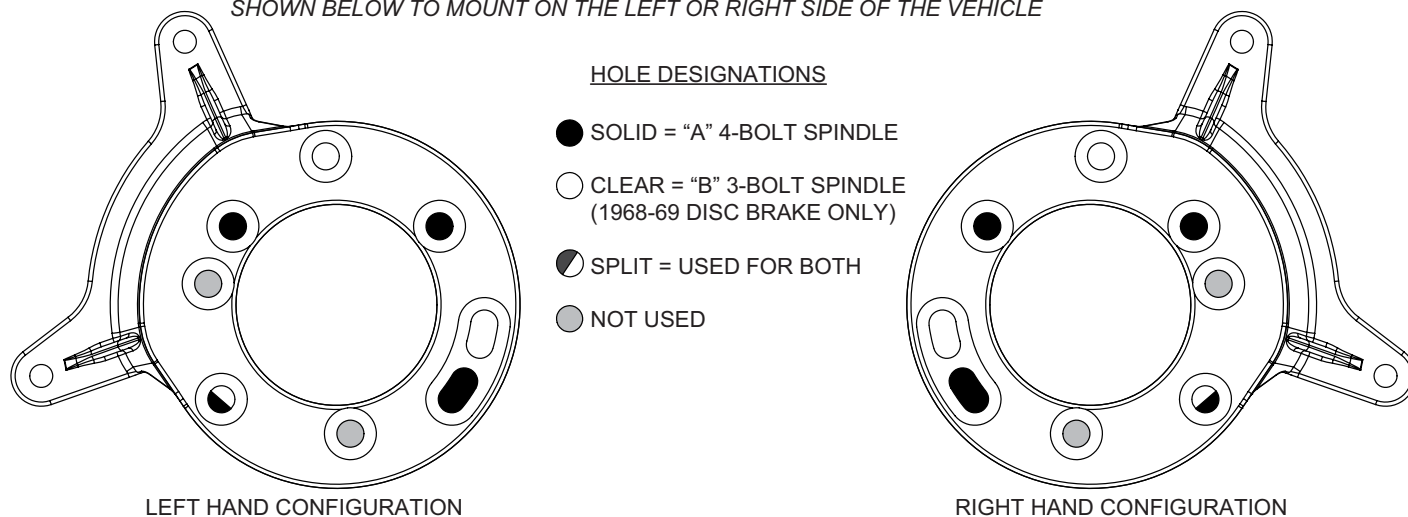
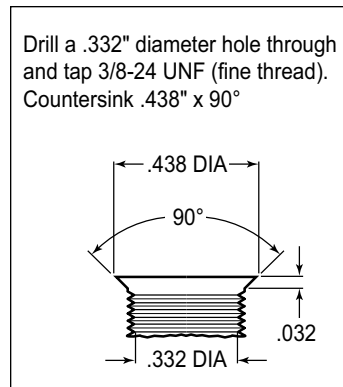
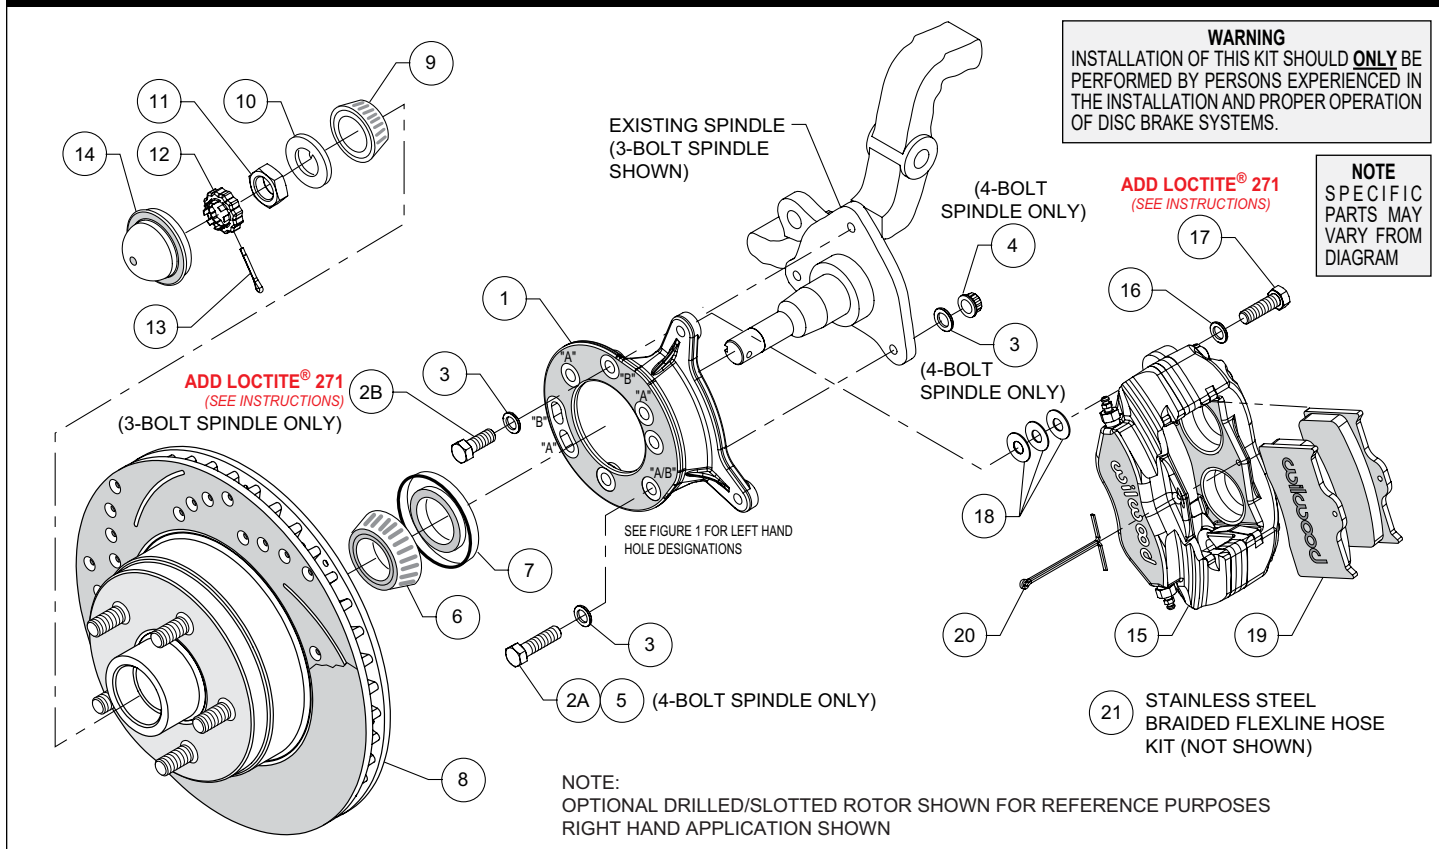

Figure 1. Wilwood Caliper Mounting Bracket
Figure 2. Drill and Tap Detail
Figure 4. Typical Installation Configuration
This kit has been designed for use with both three and four bolt spindle configurations. The only difference is in how the Wilwood caliper mounting bracket is installed. The same bracket is used for both configurations; only the 1968-69 disc brake spindle utilizes three mounting holes while all other spindles use the four mounting holes (see Figure 1). For your convenience we have supplied bolt kits for both applications (see parts list and Figure 4 as necessary). Use the bolt kit that is applicable to your vehicle and disregard the other one.
NOTE: This modification should be performed by a qualified machinist and completed before assembly of the Wilwood disc brake kit begins. Using the caliper mounting bracket as a template (refer to Figure 1 as necessary), locate and verify the three original holes on the spindle that need to be modified. Drill a .332" diameter hole through all three holes, then tap 3/8-24 UNF (fine thread). Countersink the holes to .438" diameter x 90°, as shown in Figure 2.
NOTE: Numbers in parenthesis refer to the parts list and Figure 4 on the preceding pages.
•**NOTE:** This kit uses the same mounting bracket (1) for both the three and four bolt brake spindles. The 4-bolt version, Photo 1, uses four mounting bolts (designated "A"), while the 3-bolt version, Photo 2, uses three (designated "B"). Refer to Figures 1 and 4 for the basic installation position of the bracket and the "A" and "B" reference designations (not physically marked on the brackets).
For 4-Bolt Spindle: Align bracket, using the four "A" holes, to the face of the spindle and attach using bolts (2A and 5), washers (3), and lock nuts (4), as shown in Figure 4 and Photo 1. Torque lock nuts to 30 ft-lb.
For 3-Bolt Spindle (1968-69 Disc Brake): Align bracket, using the three "B" holes, to the face of the spindle and attach using bolts (2B) and washers (3), as shown in Figure 4 and Photo 2. Finger tighten. Remove bolts one at a time, apply red *Loctite*® 271 to threads, and torque to 40 ft-lb.
•Pack the large inner bearing cone (6) with high temperature disc brake bearing grease (available from your local auto parts store) and install into the backside of the hub (8), Photo 3.
•Install the grease seal (7) by pressing into the backside of the hub (8), flush with the end of the hub.
•Pack the small outer bearing cone (9) with high temperature disc brake bearing grease and install into the front side of the hub (8). Slide the hub/rotor onto the spindle. Secure using spindle washer (10) and spindle nut (11). Adjust bearings per OEM specifications. Install spindle nut retainer (12) and a new cotter pin (13), Photo 4.
•Press the dust cap (14) into hub (8), Photo 5..
•Mount the caliper (15) onto the caliper mounting bracket (1) using bolts (17) and washers (16), as shown in Figure 4. Initially place three .035" thick shims (18) on each bolt between the caliper and the bracket, Photo 6. Temporarily tighten the mounting bolts and view the rotor (8) through the top opening of the caliper. The rotor should be centered in the caliper, Photo 7. If not, adjust by adding or subtracting shims between the bracket and the caliper. Always use the same amount of shims on each of the two mounting bolts. Once the caliper alignment is correct, remove the bolts one at a time, apply red *Loctite*® 271 to bolt threads, and torque to 40 ft-lb.
•Install the disc brake pads (19) into the caliper, with the friction material facing the rotor (8), Photo 8. Secure in place using cotter pin (20), Photo 9.